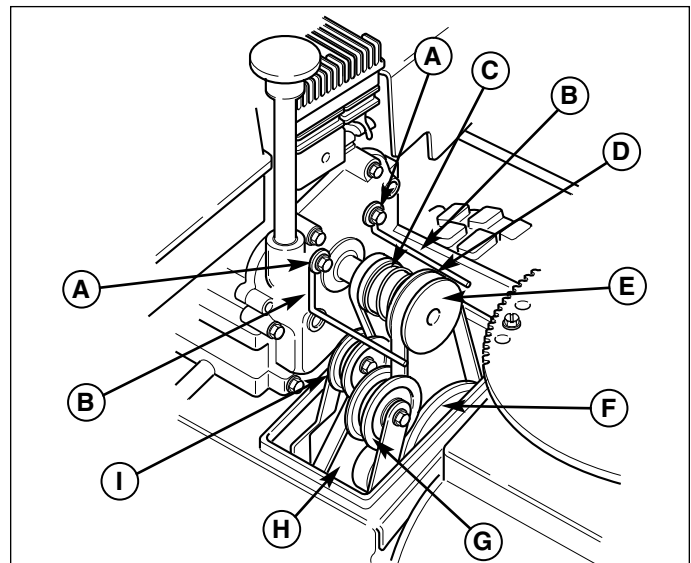

Figure 26. Belts and Pulleys
3. Move the belt guides (B, Figure 26) by loosening the two capscrews (A).
- a. Slip the auger drive belt (D, Figure 26) from the idler pulley by pushing it away from the pulley and then toward the rear.
- a. Pull the idler pulley (I, Figure 26) away from the belt and slip the belt from the pulley.
- b. Slip the belt off the traction pulley and then the engine pulley. The arm for the front idler pulley (G, Figure 26) may have to be pivoted to provide clearance for removing the belt from the traction pulley.
- c. Pull the belt out between the auger pulley (F, Figure 26) and traction pulley.